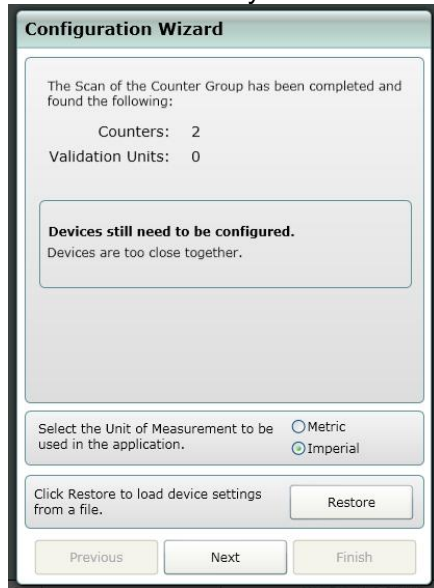

Figure 20
3. You will be required to configure the Height and X-Y of the sensors during the wizard process. Measure the appropriate Height value and use the Traf-sys Sensor Wide Opening Setup Calculator to determine the necessary X-Y offsets. See Figures 20 & 21 below.